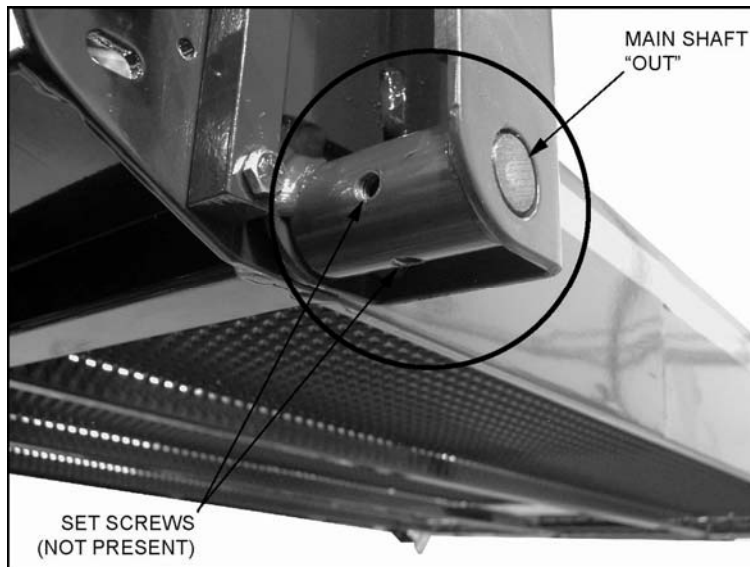
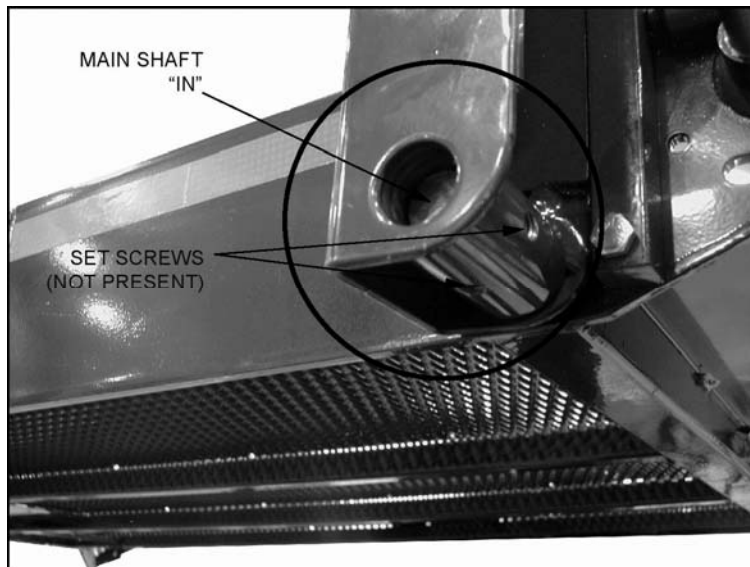
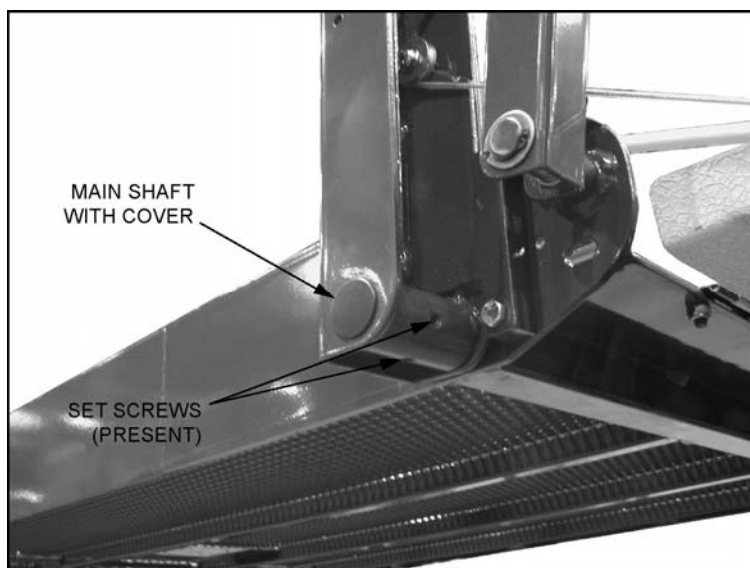

Figure 1: Main Shaft "Out" (Not Correct)
Figure 2: Main Shaft "In" (Not Correct)
Figure 3: Correct Set Screw Installation
One S-Series and K-Series model manufactured on effective dates (May 7, 2009; June 1, 2009; June 4, 2009) were found to be missing set screws which can cause main shaft to separate from vertical arm, as shown in Figure 1 and Figure 2. Set screws with pre-applied medium strength thread lock must be installed to secure main shaft with vertical arm, as shown in Figure 3.
2. Refer to Figure 3. Install two set screws to secure main shaft. Torque set screws to 15ft.lbs. Repeat for opposite side.